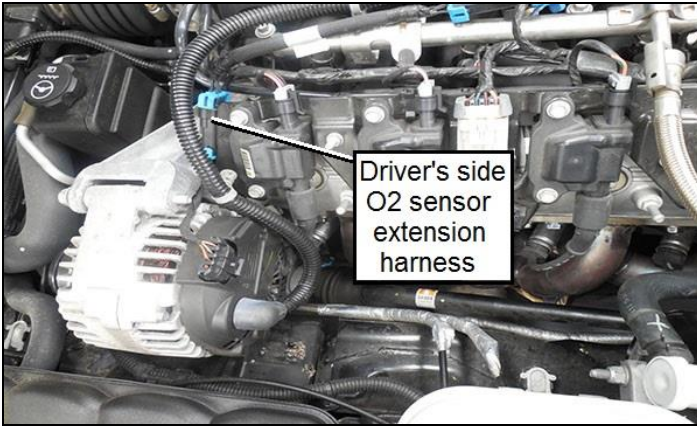

Figure 1
6. The driver's side harness will run up behind the alternator and between the coil mounting bracket and the valve cover. Be sure to keep the harness away from the header tubes, steering column, or any moving parts. Position the connector under the injector wires to keep them from interfering with the engine cover. See **Figure 1** below.